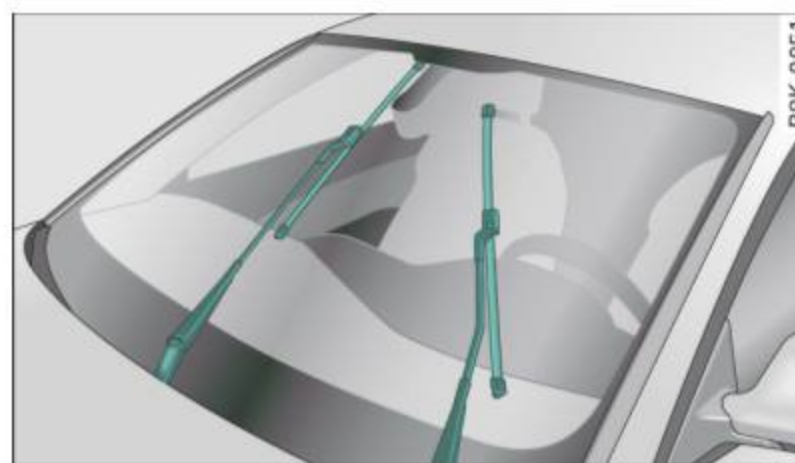

Fig. 62 Service position
- **On** - changing the windshield wiper blades can only be done if you bring the wiper arms to the service position ⇒ page 66, fig. 62. You will also avoid paint damage to the hood when working on the wipers in this position.